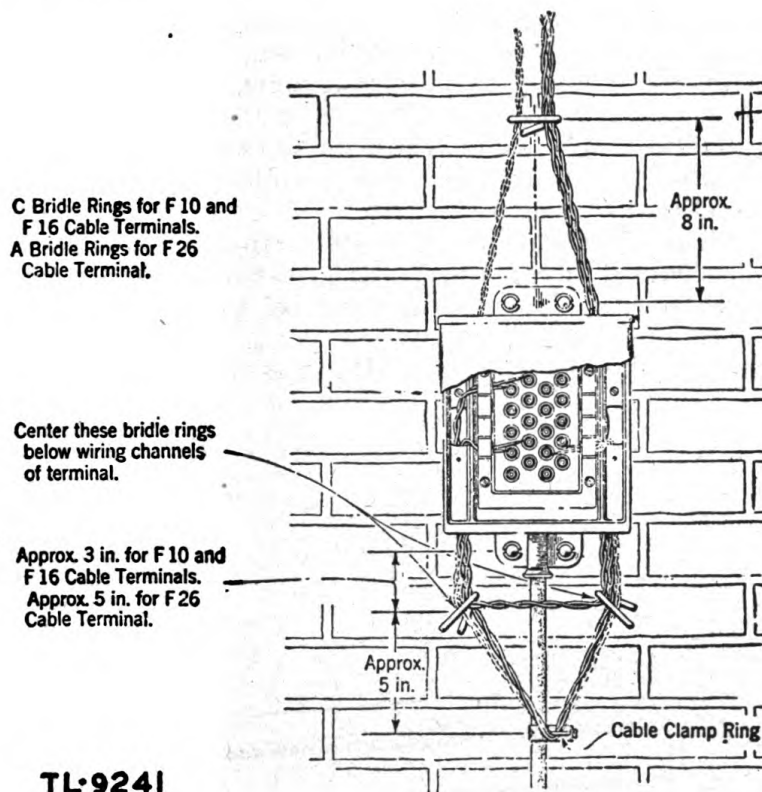

Figure 46. "F"-type cable terminal mounted on wall, with stub cable at bottom of terminal.
(4) Figure 46 shows an "F"-type cable terminal mounted on wall, with stub cable at the bottom of the terminal.